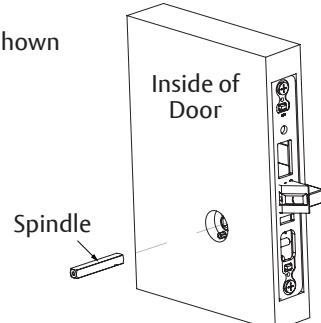

Figure 3
3. Insert spindle into lockbody hub. (Figure 3)